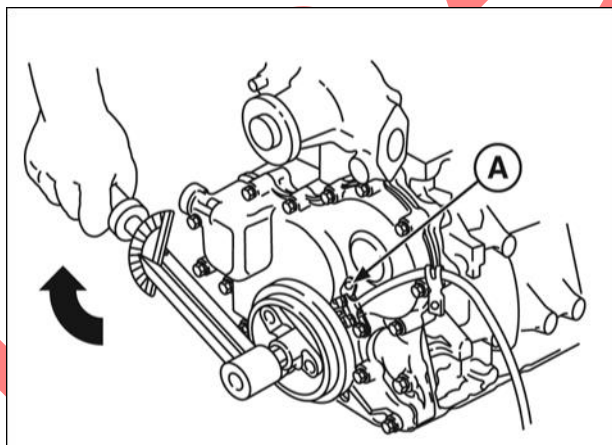

Figure 18
18. Install trigger assembly (A, Figure 18) and wire.